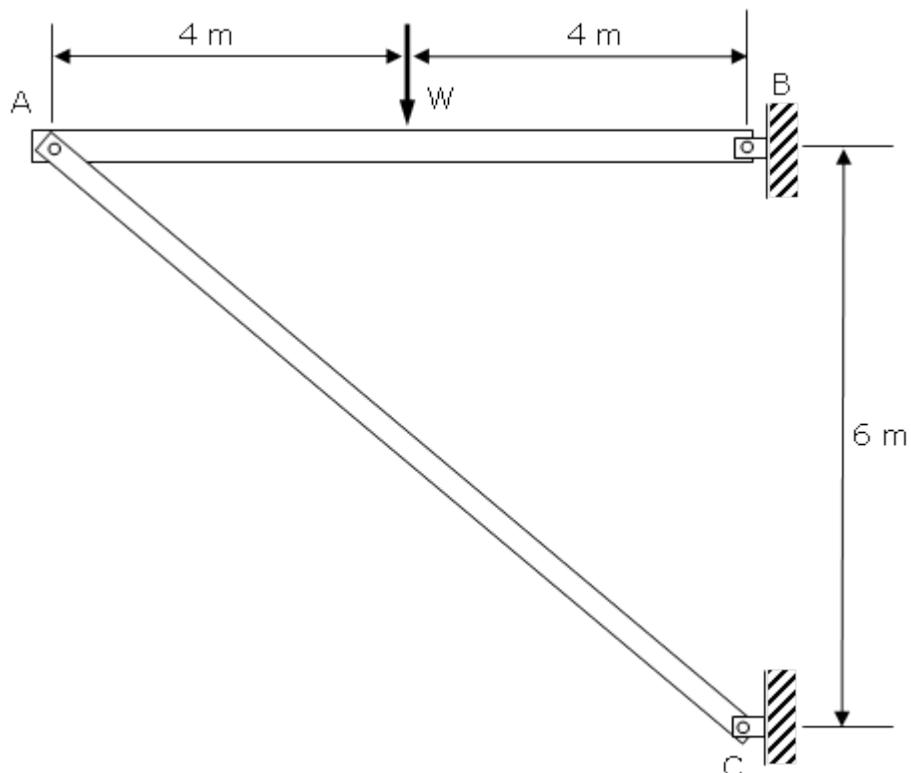

Fig. Q4
4. A beam, AB, supported by a strut, AC, is subjected to a point load, W , acting halfway along its length, as shown in Fig. Q4. The beam is made from solid square cross-section steel, 40mm x 40mm, and the supporting strut is made from solid circular cross-section steel, 30 mm diameter. All connections are pin joints.